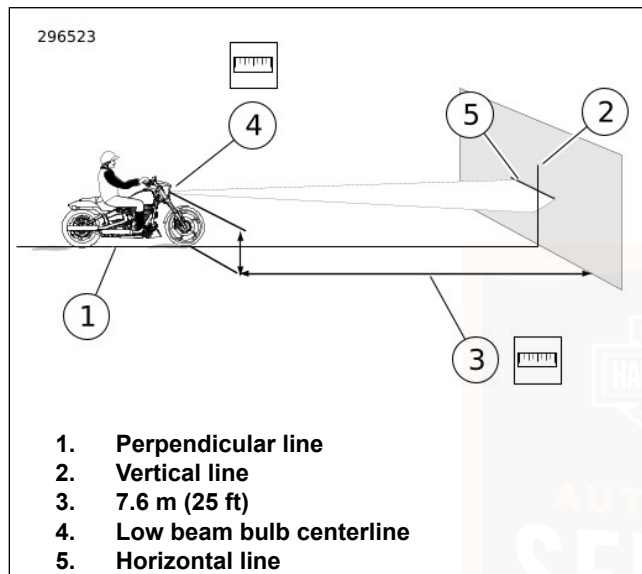

Figure 77. LED Headlamp Alignment
1. See Figure 77. Park the motorcycle on a line (1) perpendicular to the wall.